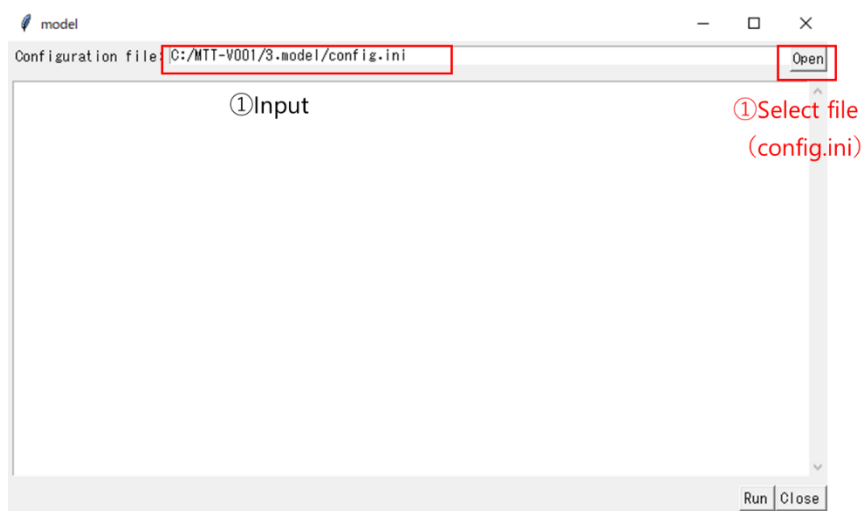

Fig. 5.3 Selecting the config file
- (e) When the screen shown in Fig. 5.3 appears, click (config.ini) in the upper right corner and select the configuration file of dataset. You can also directly key in the text display area of the file path.